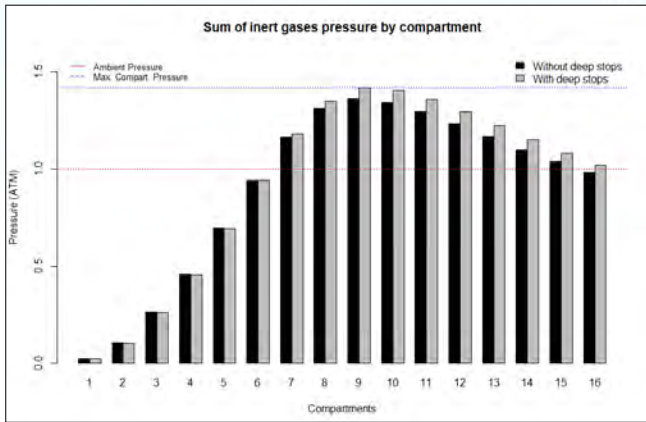
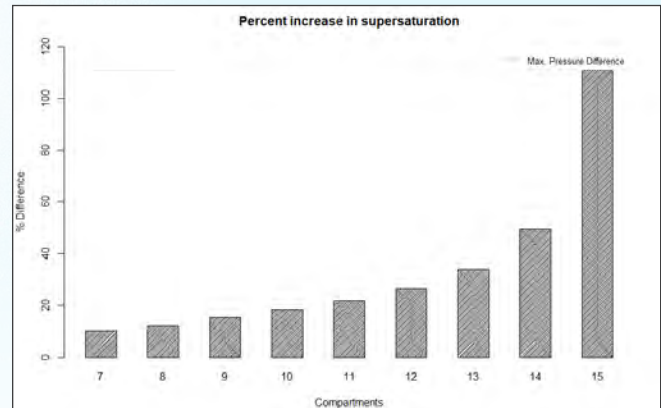

Figure 1
Figure 2
The reason behind the findings mentioned above might be related to the different supersaturation observed in tissues with higher half-times upon surfacing. Figure 1 illustrates total inert gas in each tissue upon surfacing, based on Albert Bühlmann's ZHL 16 algorithm, for two profiles calculated with different gradient factors (GF) to simulate decompression schedules generated by dissolved gas- and bubble-based models.
A better way to compare these two decompression schedules would be to compare the supersaturation in a given compartment produced by each one by subtracting the ambient pressure from the total inert gas pressure in a compartment (all calculations were made using an ambient pressure of 1 atmosphere). In Figure 1, only compartments 7 to 15 have internal inert gas pressures higher than ambient pressure upon surfacing, meaning that compartments 1 to 6 and 16 had total inert gas pressures below ambient pressure upon surfacing. The comparison between the two profiles can be seen in Figure 2.